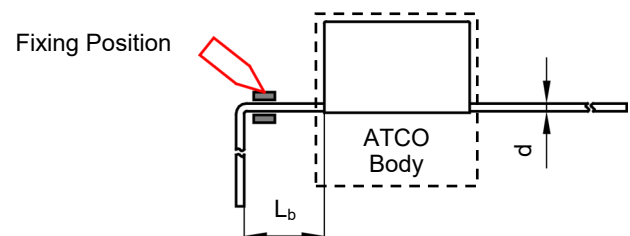

FIGURE HN-2
2. When bending leads, please use pincher or similar tools to fix the product as shown in Fig.HN-2, to avoid damaging the product.